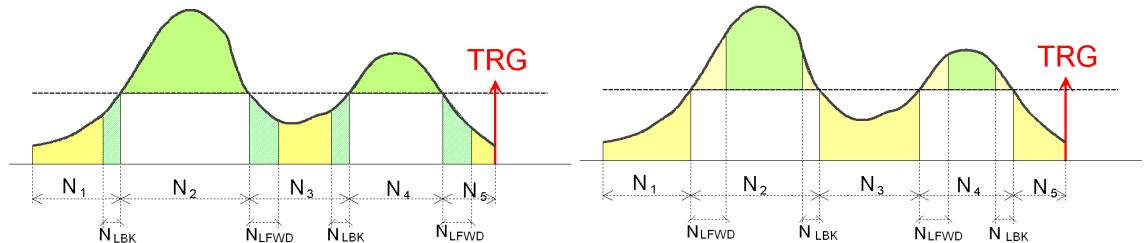

Fig. 8.9: Example of non-overlapping N_{LBK} and N_{LFWD} in case of positive logic (left) and negative logic (right).
1. In the simplest case N_{LBK} and N_{LFWD} do not overlap. Fig. 8.9 reports the case of positive logic on the left, and negative logic on the right. The green areas correspond to the over threshold samples, while the yellow ones correspond to the under threshold samples: